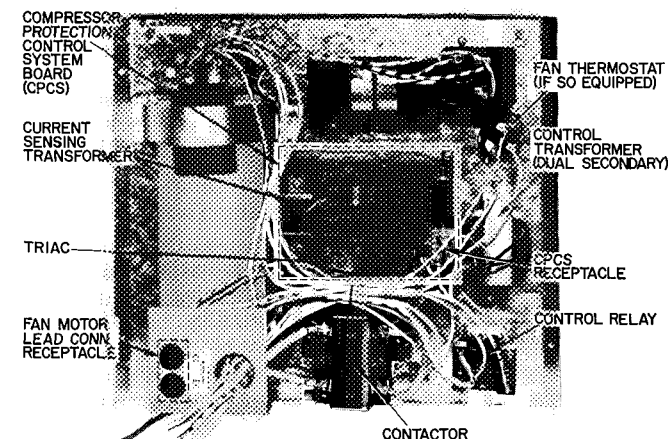

Fig. 7 – Control Panel (Cover Removed)
Outdoor Fan Thermostat (38SE055 and 38GR units) switches fan to high speed (Table 5) when outdoor temperature reaches 90 F – maintains proper condensing temperature at high outdoor air temperatures. Thermostat is located on Control Panel, Fig. 7.
Compressor Protection Control System (CPCS – Solid State, Fig. 7) provides: compressor motor locked rotor protection; compressor start winding protection; compressor motor running overload protection; compressor over-temperature protection; contactor anti-chatter protection.
2. Disconnect fan motor leads from control panel located on service door. See Fig. 7 and refer to Service Door on page 3. Remove 6 screws holding fan motor orifice assembly in place and lift assembly from unit.